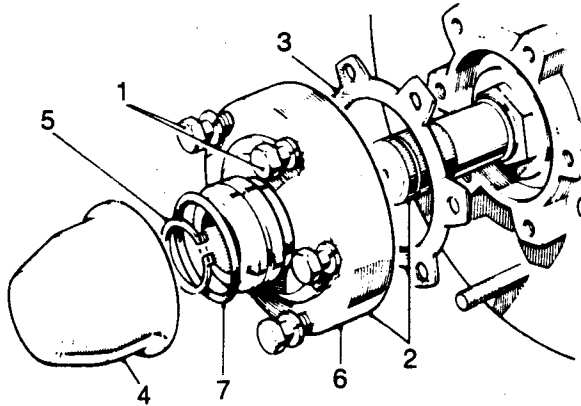

Fig J1.3
- (1) Refer to Fig J1.3. Remove the hub driving member fixings (1).
- (2) Withdraw the driving member and axle shaft complete (2).
- (3) Withdraw the joint washer (3).
- (4) Prise off the hub cap (4).
- (5) Remove the circlip (5).
- (6) Withdraw the driving member (6) from the shaft.
- (7) Withdraw the O-ring seal (7).